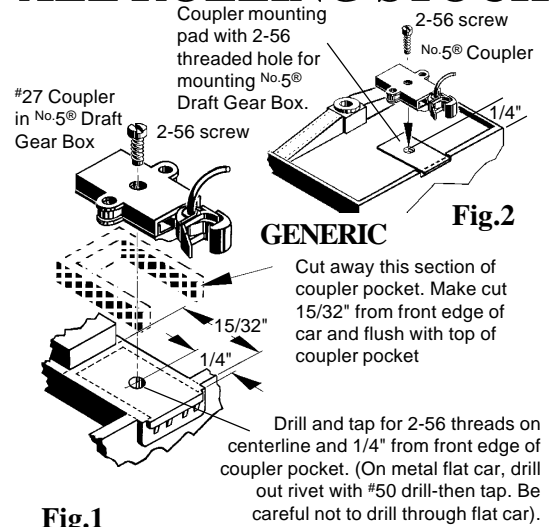

Fig.1
1. Remove old coupler by prying off cover plate with a screwdriver. On metal cars drill out rivet with a #50 drill. Cut away bottom sides and back end of coupler pocket 15/32" from front edge of car and flush with the inside top of coupler pocket. Cut should be smooth and flat. See Fig.1.